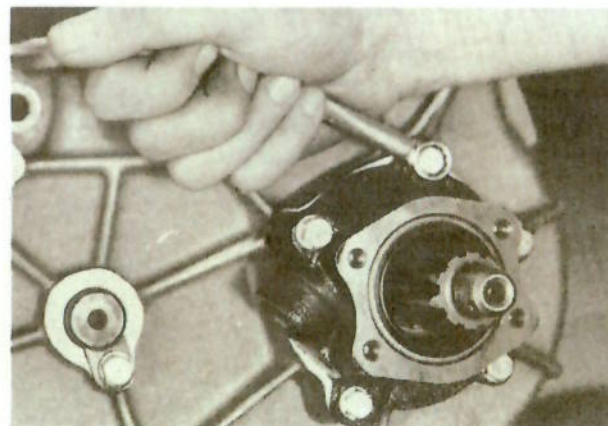

FIG. 13 - REMOVING THE SPEEDOMETER GEAR HOUSING FROM THE TRANSFER CASE.
23. Remove the five hex-head cap bolts and spring washers that secure the speedometer gear housing to the transfer case, (Fig. 13). Remove the housing.